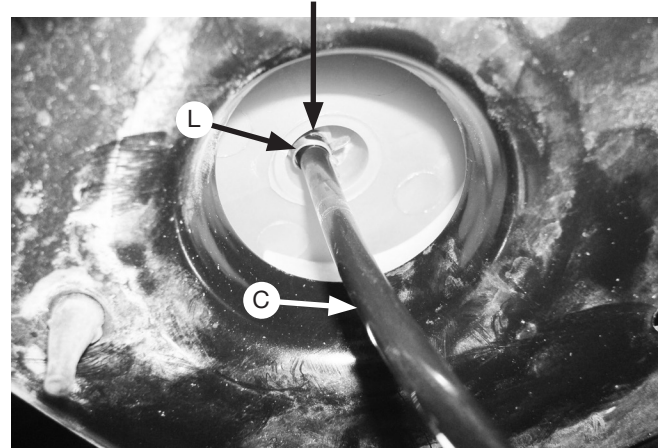

Fig. 5
5. Install an air line clamp (L) onto one end of the air line (C) and install the air line onto the barbed stem of the cylinder completely covering the barb. Using a needle nose pair of pliers, position the air line clamp over the barbs (Fig. 5).